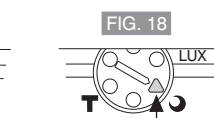
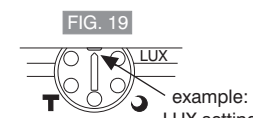

FIG. 18
FIG. 19
- The **LUX** adjustment determines at what light level the Light Control will start operating when you set the sensor to the AUTO MODE. Provisionally turn the **LUX** control knob to the edge clockwise at the moon (dusk) position. In this provisional setting mode, the Motion Sensor remains inactive during daylight (FIG. 18). At dusk and you find it is the **LUX** level you desired for operation, simply set the **LUX** control knob to the position that you tried satisfactorily (example FIG. 19).